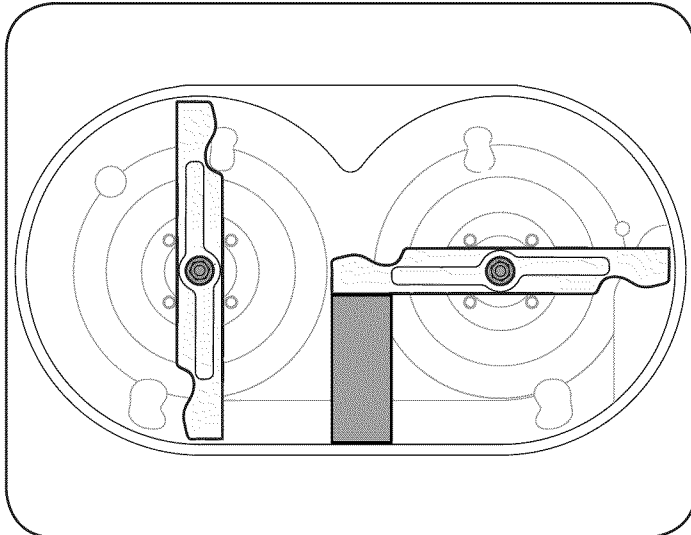

Figure 26
2. Place a block of wood between the center deck housing baffle and the cutting blade to act as a stabilizer. See Figure 26.
3. Remove the hex flange nut that secures the blade to the spindle assembly. See Figure 26.